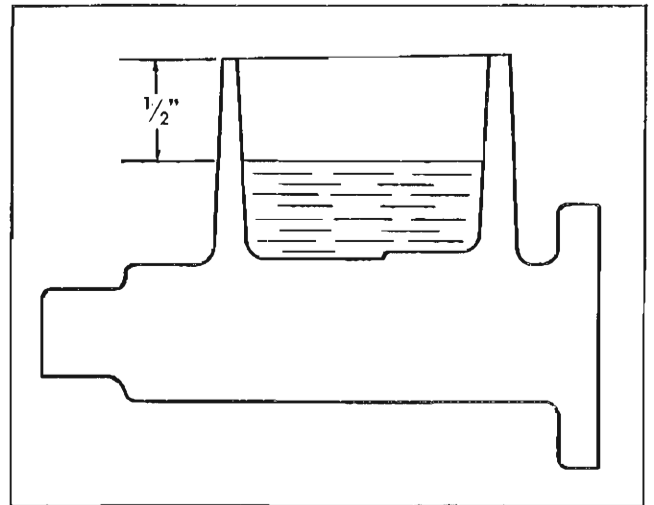

Fig. 5-4 Correct Fluid Level in Master Cylinder
4. When bleeding operation is completed, refill reservoir to within  $\frac{1}{2}$ " of top of master cylinder filler neck gasket surface and then replace filler cap (Fig. 5-4).
Fluid level in master cylinder should be  $\frac{1}{2}$ " below cap sealing surface (Fig. 5-4).